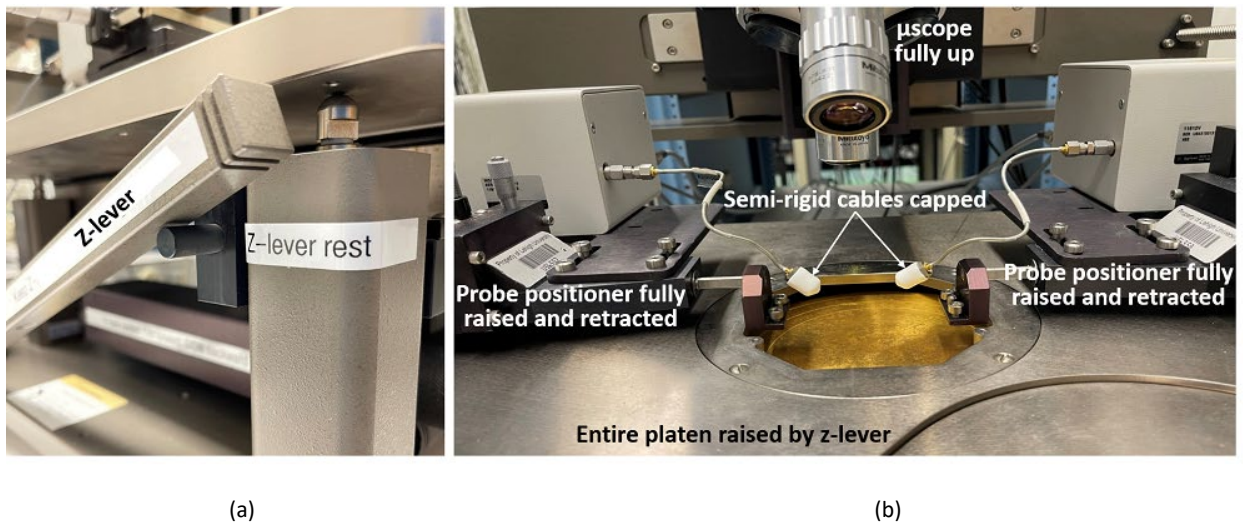

Fig. 2.1. Default setup with (a) z-lever propped up and (b) microscope and probe positioners raised and retracted.
- 2.3 **Make sure the tool is set up with the z-lever propped up on the rest, the microscope fully raised, the semiflexible cables protected by end caps, and the probe positioners fully raised and retracted (Fig. 2.1) by gently turning the z- and x- micrometers to their middle settings around 4 (Fig. 2.2).** The probe positioners are mounted on a platen resembling a table top. The z-lever raises the entire platen up along the z-axis and separates the platen from the wafer chuck. The probes point at each other along the x-axis. The probes can be laterally moved along the y-axis to ensure that they point at each other.
- 6.1 **Lift the z-lever if it is not already up and propped up on the rest [Fig. 2.1(a)]!**